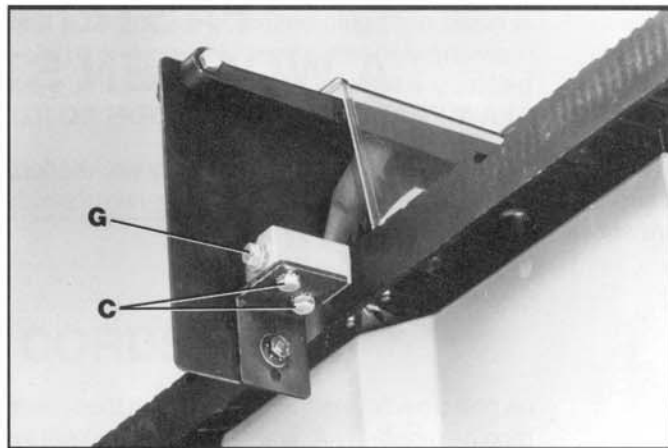

Fig. 8C
10. When you are certain the splitter is properly aligned with the saw blade, tighten the two screws (C) Fig. 8C, that fasten the splitter support bracket to the splitter bracket and tighten screw (G) that fastens the splitter bracket to the pivot rod.